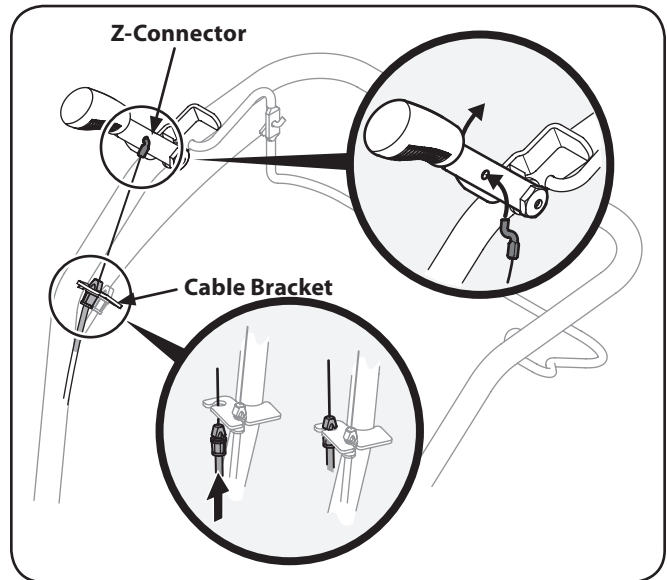

Figure 3-7
- Carefully unwrap the reverse clutch cable (Red end fitting) from its shipping position. Pull the cable up through the top hole of the cable bracket and push the cable connector up through the hole until the groove in the connector snaps into place. See Fig. 3-7.
- Place the Z-connector into the hole in the reverse clutch handle assembly from the inside of the handle to the outside. See Fig. 3-7.